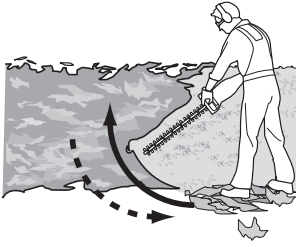

Fig. 6
1. Make sure that the blade cover (11) is removed, and the battery pack (12) is assembled before operation.
4. Always hold the product firmly with both hands on front handle (4) and rear handle (6). Never operate this product using only one hand.
6. First cutting both sides from the bottom upwards to the top. This will prevent any of the cuttings falling into the path of the area still to be cut (Fig. 6).